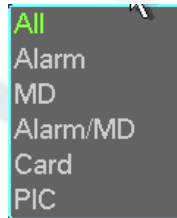

Figure 4-39
- **Picture backup:** Please set the corresponding time, channel and then select the type as PIC from the dropdown list. See Figure 4-39. Please click the Add button and then select the pictures. Click the Start button; you can copy the specified pictures to the selected portable devices.
In Figure 4-39, input mode value in the No. blank, and click pattern button.